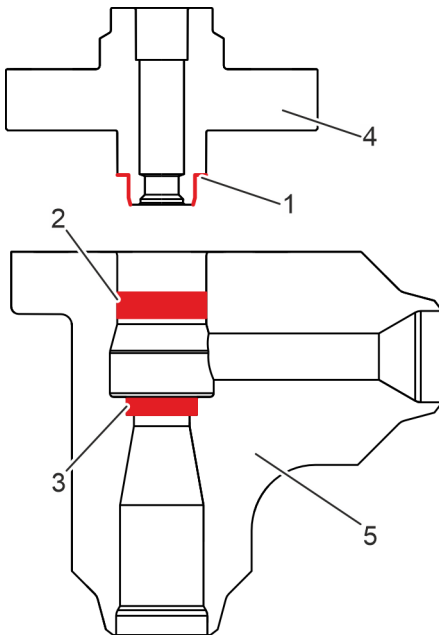

Fig. 44: Checking the sealing faces
- 16.▶ Clean the sealing faces (Fig. 44/1 to 3) on the cover (Fig. 44/4) and in the body (Fig. 44/5) thoroughly.